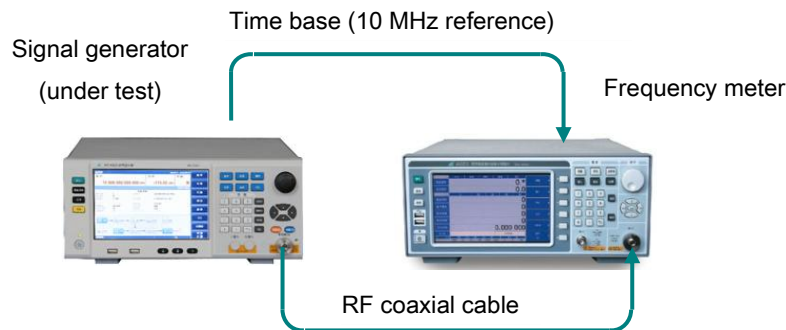

Fig. 8.1 Frequency span test
- 1) Connect equipment as shown in Figure 8.1.